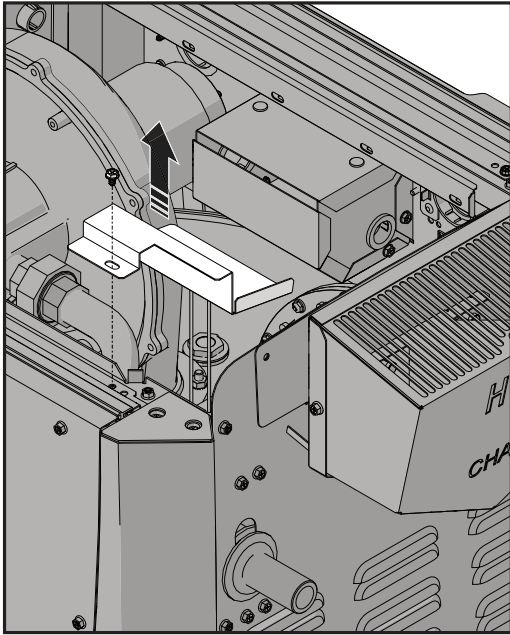

Figure 35. Remove Gas Valve Bracket
7. Remove one screw to take off gas valve bracket (Figure 35).